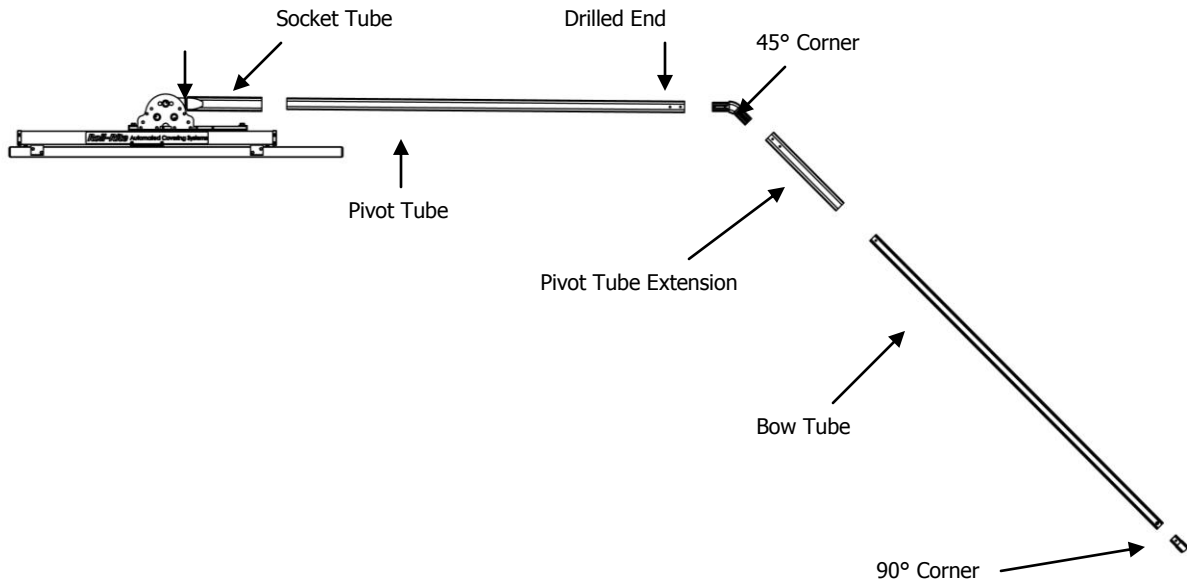

Fig. 6
- 2) Slide the pivot tubes in the socket tubes on the spring packs until they are flush with the lower end of the sockets (indicated by arrow in Fig. 6) leaving the end drilled in step one out.